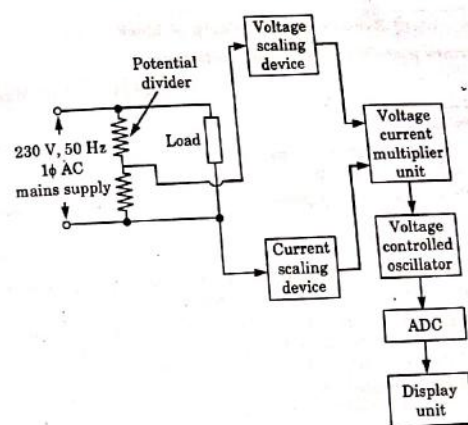

Fig. 4.5.1. Block diagram of electronic energy meter.
- A functional block schematic of an electronic energy meter is as shown in the Fig. 4.5.1.